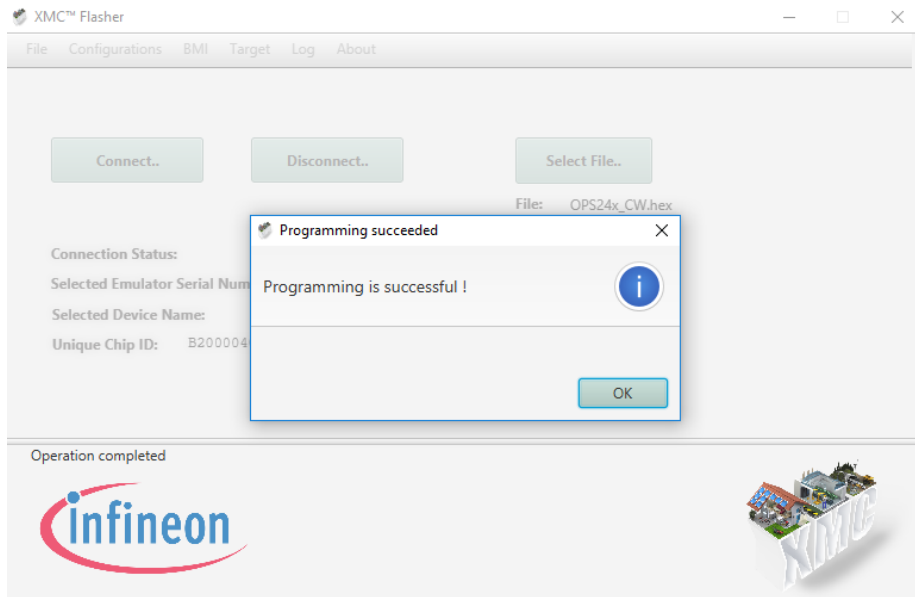

Figure 12. Successful Flashing of Sensor
**Step 10.** Upon a successful re-flashing, a pop-up window will appear indicating a success (Figure 12). Click Ok and followed by the Disconnect button. The sensor can now be unplugged from the JTAG programmer and PC.